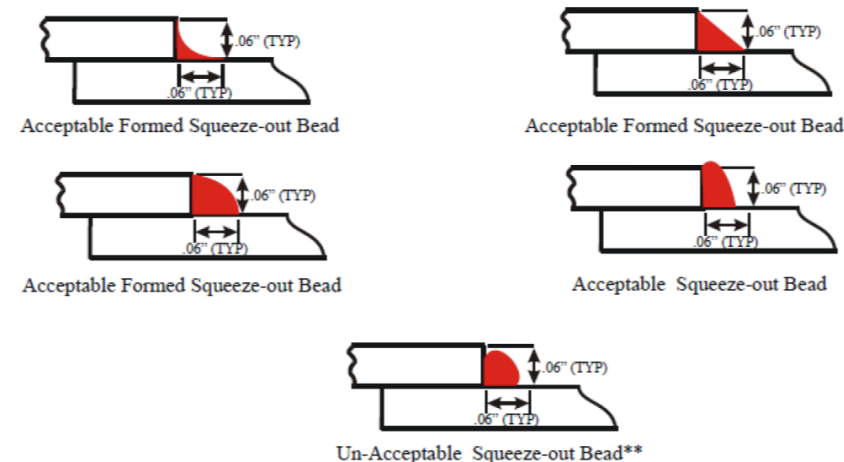

Figure 17 2ZZP00017 Fillet Seal
- 17 Form partial Fillet Seals around assembled parts as defined in Figure 17 2ZZP00017 Fillet Seal. Fillet seal target conditions per Figure 18 Fillet Seal Target Conditions.